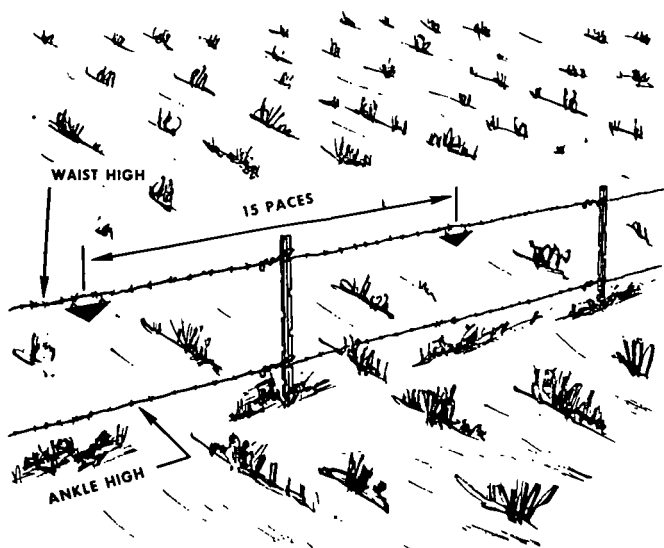

Figure 305. Minefield marking fence for minefields.
a. Rear Area Minefields. A rear area minefield must be completely fenced with two strands of barbed wire (fig. 305). The fence does not follow the exact boundary, but is erected so as to avoid indicating the exact boundary. It must not be placed less than 20 paces from the nearest mine. Standard marking signs (fig. 306) are hung on the upper strand so that the word "mines" faces away from the field. Minefields containing toxic chemical mines are marked in the same manner using the markers shown in figure 307. When toxic chemical mines are mixed with other type mines in the same minefield, both signs, "mines" and "gas" are hung close together.